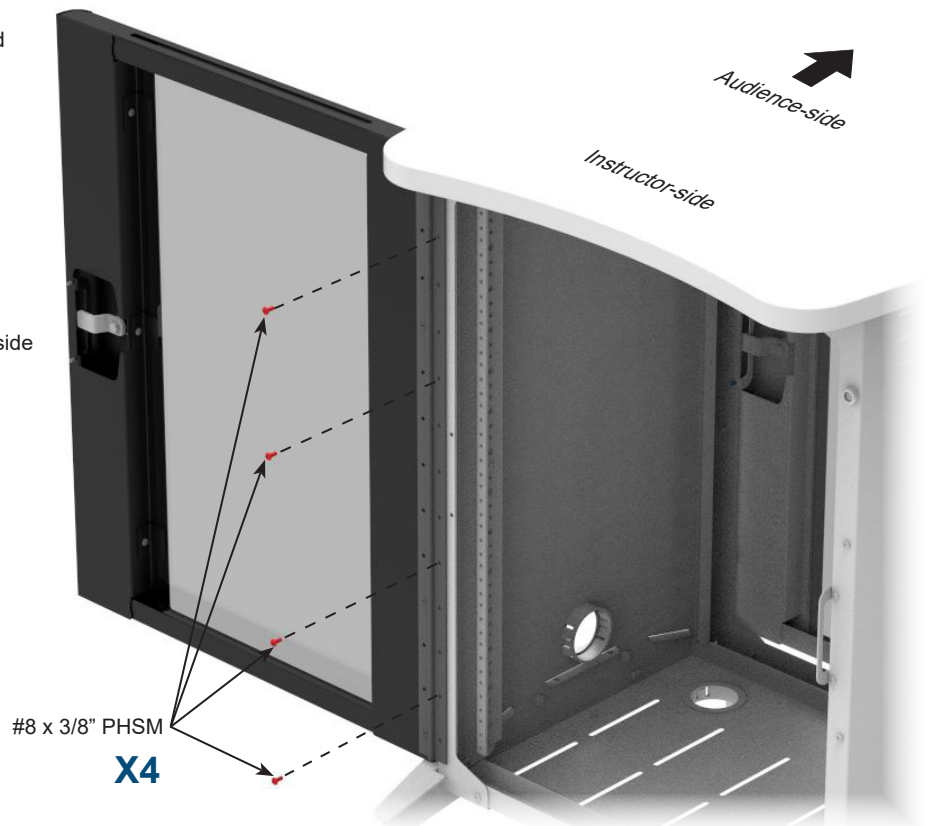

Figure 9
1. Open hinge of the door assembly 180°. **Figure 9.**
2. Align the hinge mounting holes with the frame and secure with (4) #8 x 3/8" PHSM screws.